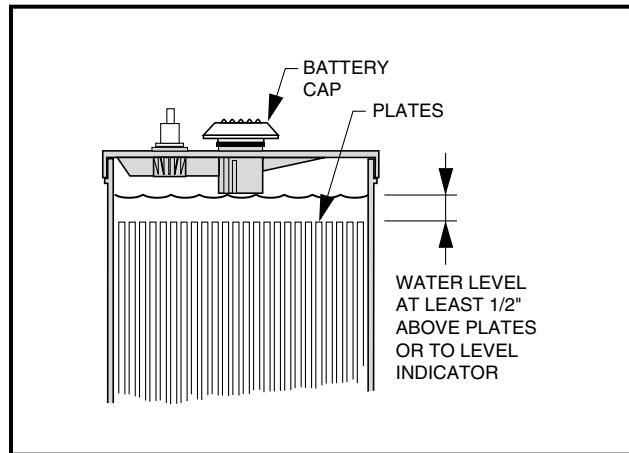

FIGURE 32
The gasoline vehicle battery is a 12 volt, low maintenance battery that requires infrequent watering (**Figure 32**).
2. The water level in the batteries should be checked weekly (**See Figure 32, Page 47, for proper level**). Add water only after charging unless the water level is below the top of the plates. In this case, add just enough water to cover the plates, charge and then check the level again. Never charge batteries if plates are exposed above water level. For best battery life, use only distilled water.